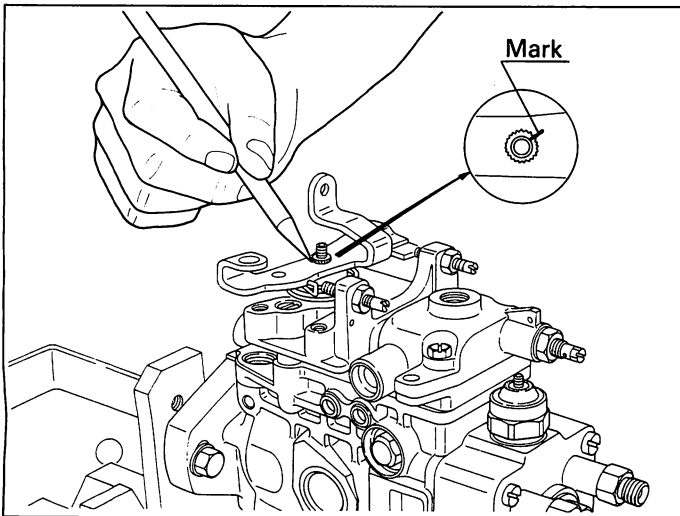

Fig. 4 Marking the control lever mounting position
5. Remove the nut (67/7), spring washer (67/6) and bracket (67/19), and then mark the mounting position on the control lever (67/5) and control shaft (67/2) for easier reassembly and readjustment. (Fig. 4)